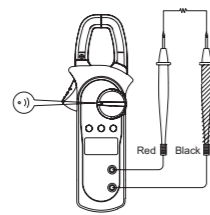

Figure 6
**D. Testing for Continuity** (See Figure 6)